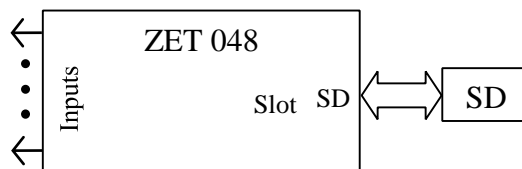

Figure 1.8. ZET 048-E connection for standalone mode operation
1.6.2.3.1 If the Recorder is completed with a removable memory card (ZET 048-E version), to work in standalone mode, it is necessary to install SecureDigital (SD) memory card into the slot located on the Recorder control panel in ZET 048-E version. Memory card installation diagram is shown in Figure 1.8. Recorder setting for operation in standalone mode and Recorder operation in this mode are described in the relevant section of “Operator Manual. Part 2”, АВТОНОМНЫЙ РЕГИСТРАТОР (STANDALONE RECORDER) programme.